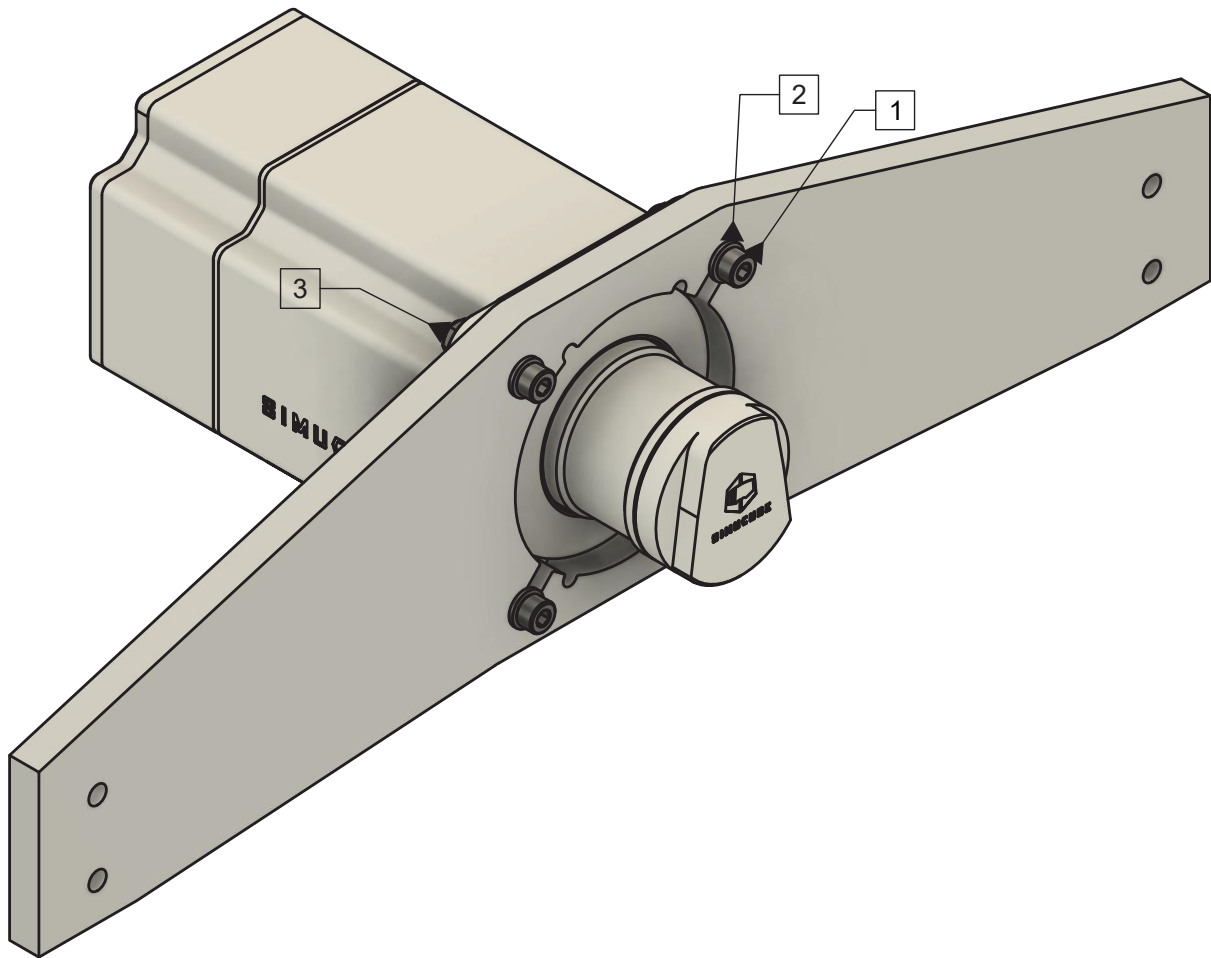

Figure 4 Mounting Simucube 2 on a simulator rig front mount bracket.
Simucube 2 can be mounted by utilizing a front mount bracket found on many simulator rigs as shown in Figure 4.
Mount Simucube 2 as shown in Figure 4. Sport and Pro models are mounted with 30mm M8 bolts with 1.25mm thread pitch (1) and M8 flat washers (2). Simucube 2 Ultimate is mounted through-the-motor flange with 40mm M8 bolts (1), M8 flat washers (2) and M8 locking nuts (3).